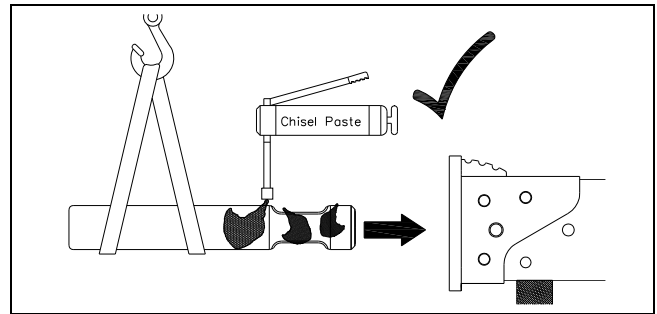

Fig. 5-12 Pre-Lube Tool Shank Before Installing
2. Figure 5-12. If a new breaker tool is installed, apply a liberal amount of lubricate to the shank of the breaker tool before inserting into front head.
3. Figure 5-12. Follow the same procedure when re-installing breaker tools that are wiped clean for purposes of inspection.